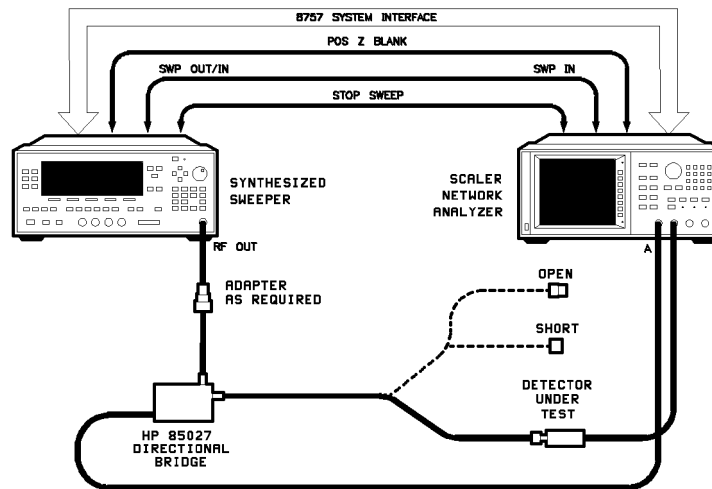

Figure 4-1. Return Loss Setup
1. Connect the equipment as shown in Figure 4-1, with nothing connected to the bridge *test port*.